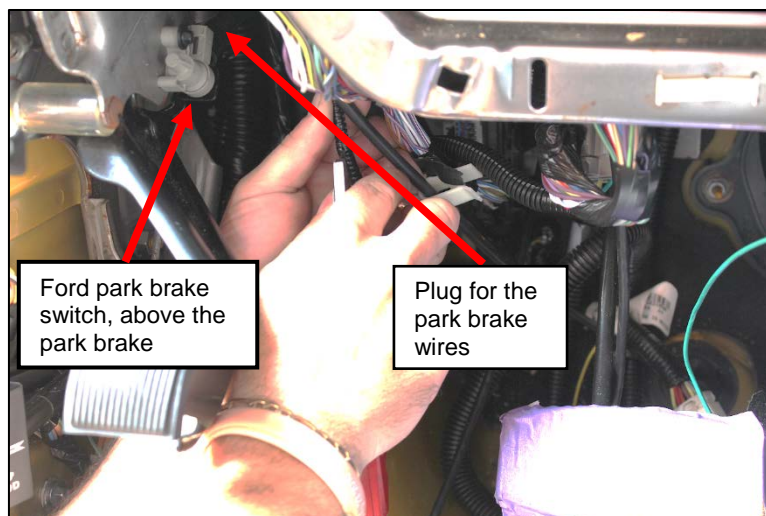

Figure 6: Location of Park Brake Switch and Plug with Wires.
3. Locate the parking brake wiring. See **Figure 6**. If a harness is already installed there, cut and cap off the two wires connected to the park brake wire. Make sure the WC565 wire (yellow) remains so the new harness can be connected to it.